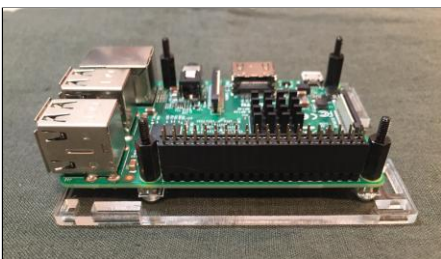

Figure 8: Press the 40-pin header straight down onto the set of pins on the RPi.
- 3) Place 40-pin header that comes with the GPS cap on RPi pins (Figure 8).